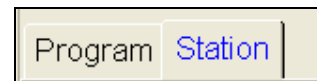

Figure 16.2.1B
- In the **“Controller Schedule”** screen click on the **Station** tab (Figure 16.2.1B).